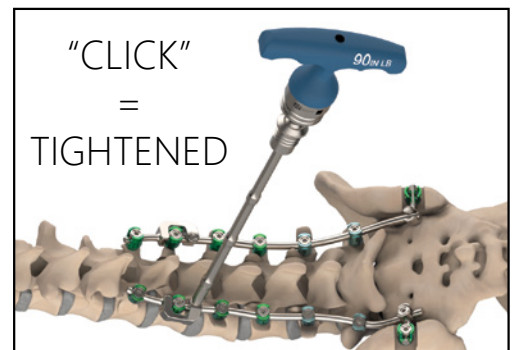

Figure 8.3
6. Perform final tightening by attaching the Final Driver to the same Torque Limiting Handle utilized for the Set Screws and rotate clockwise until an audible "click" is heard and tension is released within the handle (Figure 8.3).